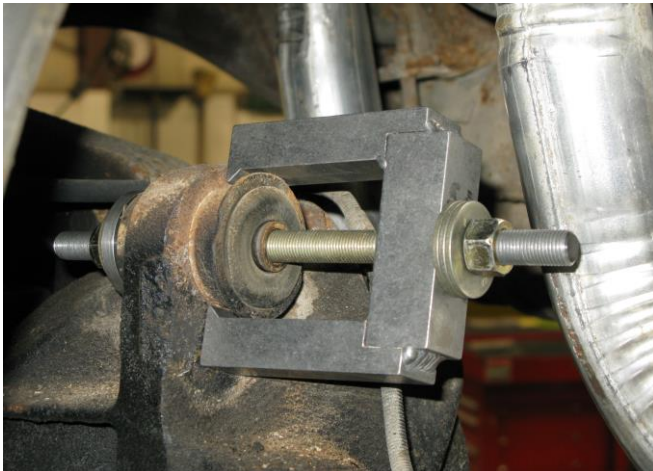

Figure 1 - Bushing removal
3. With the upper link removed, remove the rubber bushing from the rear axle housing. Detroit Speed offers the tool necessary for the removal and installation. It is available as p/n: 042501DS. Figure 1 below shows the tool assembled on the rear axle for bushing removal. Figure 2 shows the bushing being installed. **NOTE:** Be sure to lubricate the threads and the washers of the tool with anti-seize to prevent galling during installation and removal.